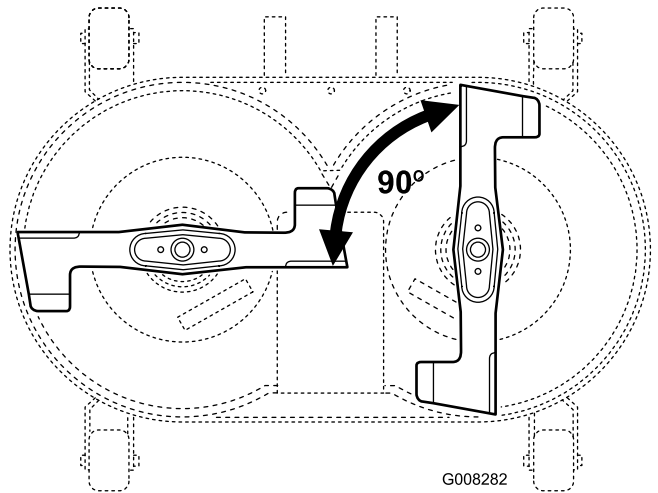

Figure 41
2. Position the blades 90 degrees to each other (Figure 41).